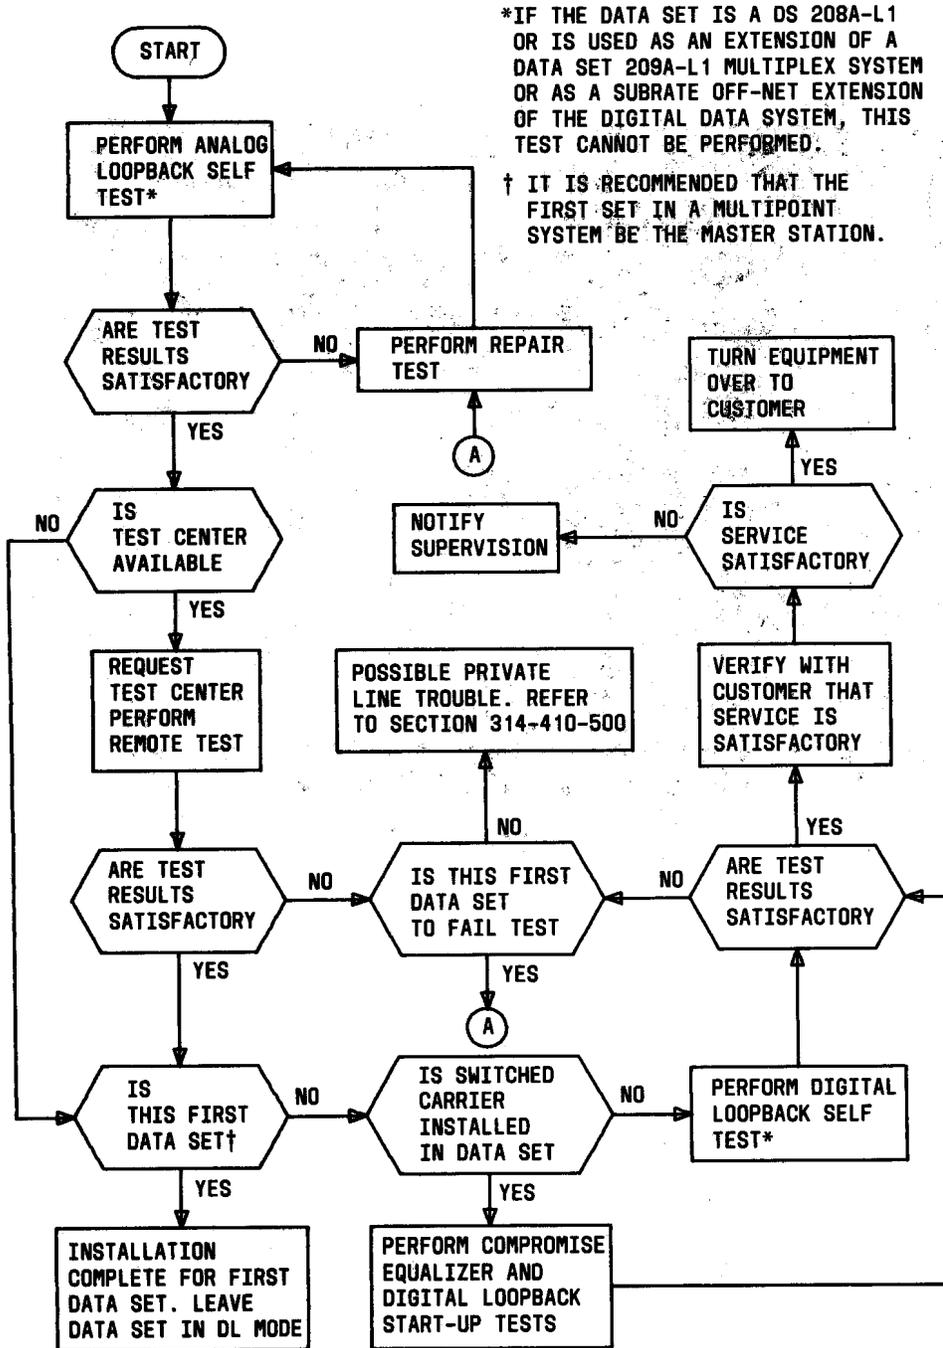

Fig. 2—Installation Test Sequence
2.01 This part provides the sequence in which tests are to be performed following installation of the data set. This test sequence (Fig. 2) provides a method of verifying that the installation is satisfactory. Before proceeding with the tests, verify that the private line meets the requirements specified in Section 314-410-500.